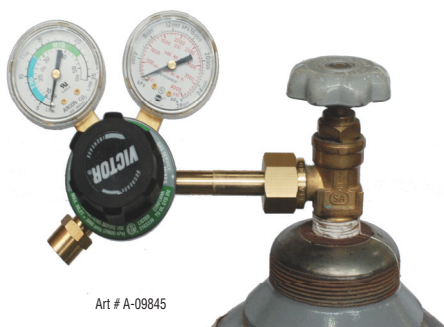

Figure 3-5: Regulator to Cylinder Valve
6. Carefully inspect the regulator for damaged threads, dirt, dust, grease, oil, or other flammable substances. Remove dust and dirt with a clean cloth. Be sure the inlet swivel filter is clean and in place. Attach the regulator (Figure 3-5) to the cylinder valve. Tighten securely with a wrench.